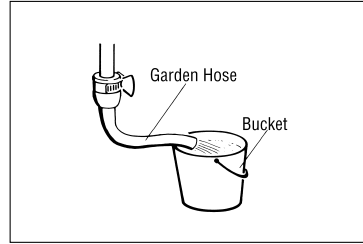

Figure 2.11
2.11 Before making the final water connections to the shower heater, the pipe-work **MUST BE FLUSHED THOROUGHLY** to remove brick dust, swarf etc. which could severely damage the shower itself. (See Fig. 2.11)